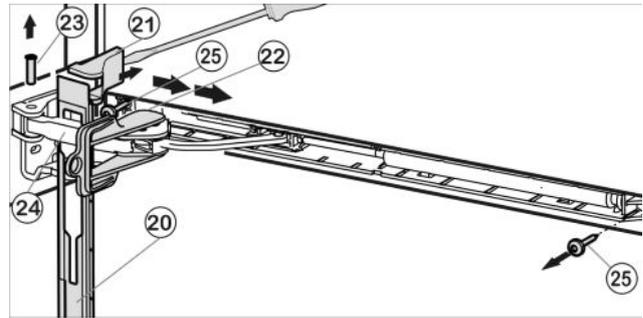

Fig. 10
- ▶ Slide the faceplate forwards over the soft stop bracket Fig. 10 (24) in the direction of the appliance.
- ▶ Snap the safety lock Fig. 10 (22) into the oblong hole.
- ▶ Using a screwdriver, lift off the cover Fig. 10 (21) from the outside and remove it in an outward direction.
- ▶ Press the pin Fig. 10 (23) out from underneath.
- ▶ Press the soft stop bracket Fig. 10 (24) towards the door.
- ▶ Remove the faceplate Fig. 10 (20).
- ▶ Unscrew the entire soft stop unit (2x Torx® 15) Fig. 10 (25).